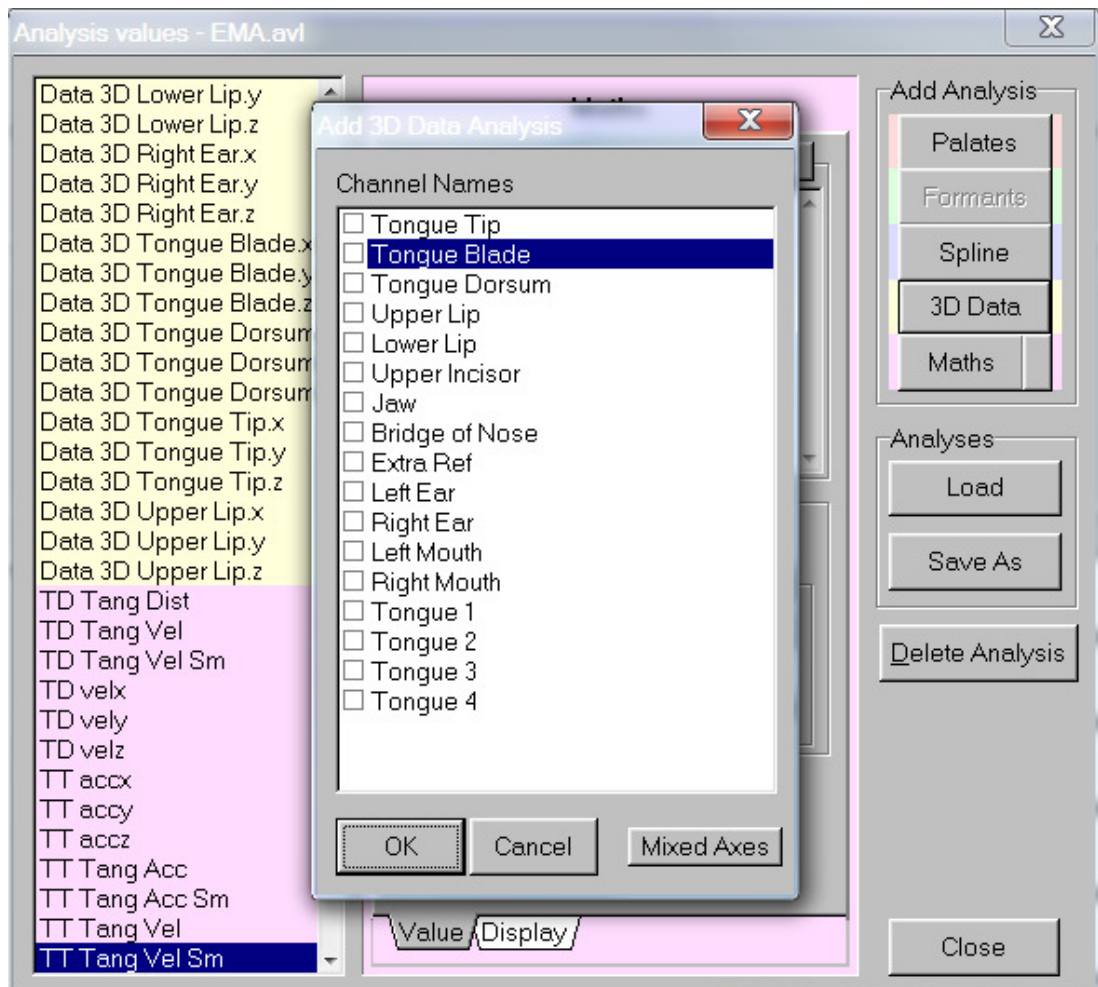

Figure 3 Analysis Values Dialogue with Add 3D Data (EMA/VICON) Analysis option selected
10. Click on the **3D Data** button and the "Add EMA Analysis" box will pop up (Figure 3).